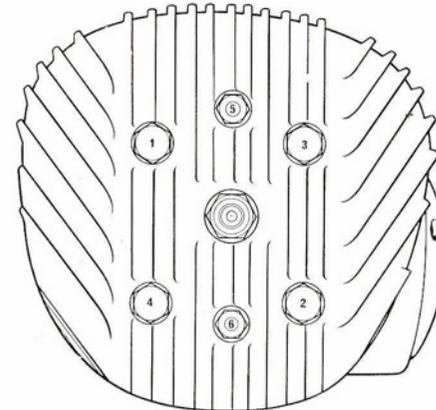

Fig. 27 Cylinder head nut tightening sequence.
- 11 Tighten the cylinder head nuts in the sequence shown in Fig. 27. The correct torque settings are: